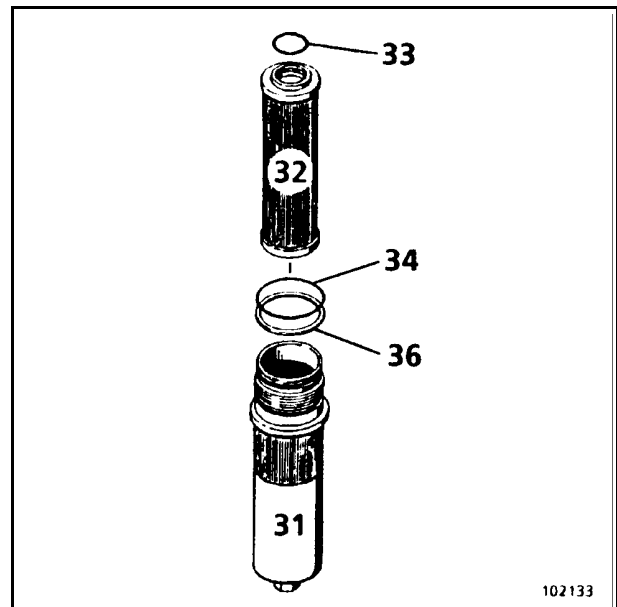

Fig. 3-63:
- Clean filter housing and contact faces at the filter head (35, Fig. 3-63:) with white spirit or paraffin oil and replace, if required.
- Clean filter housing (9, Fig. 3-63:) and the sealing faces at the filter head with white spirit or paraffin oil.
- Insert new filter element into filter housing (9) and refit to the filter head with new, lightly oiled sealing rings (10 and 14) and a new retaining ring (13).